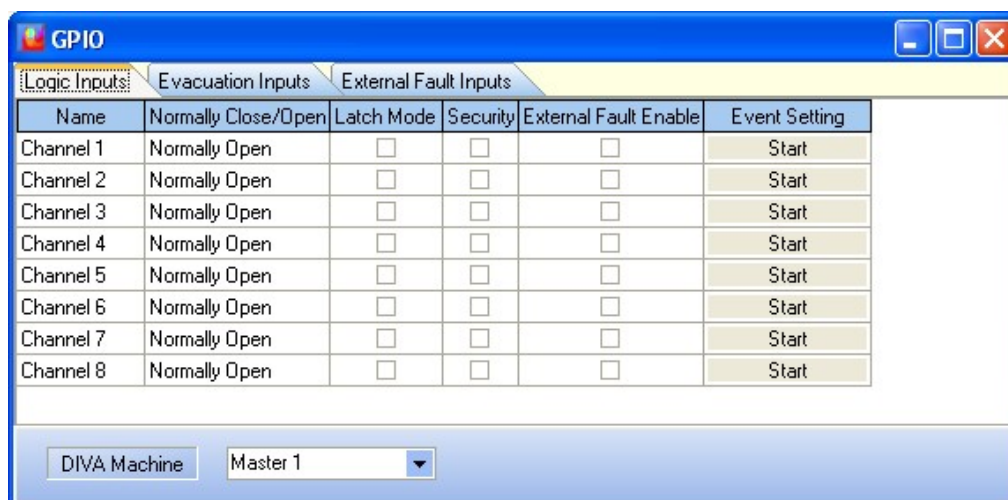
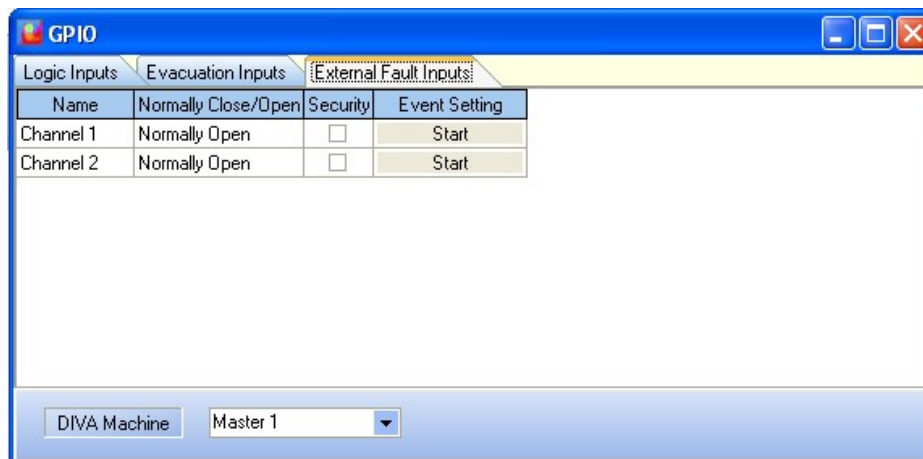

Figure 20: GPIO window
Figure 21: External Fault Inputs page
- In the GPIO window (Figure 20), click the External Faults Inputs tab (Figure 21).